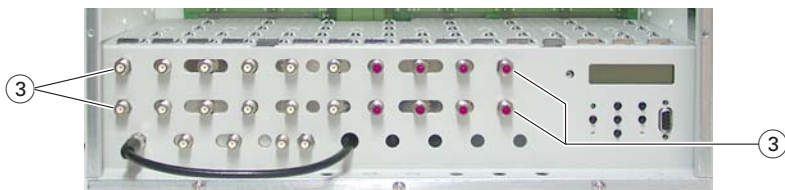

Fig. 4
- Fasten the outer sockets of the SAT IF input distributor (3) according to fig. 4 with two nuts and lock washers put under each.